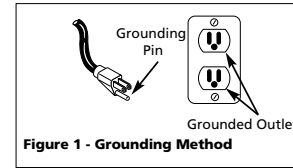

Figure 1 - Grounding Method
- This product is for use on a nominal 120 volt circuit and has a grounding plug that looks like the plug illustrated in Figure 1. Make sure the product is connected to an outlet having the same configuration as the plug. This product must be grounded. In the event of an electrical short circuit, grounding reduces risk of electrical shock by providing an escape wire for electric current. This product is equipped with a cord having a grounding wire with an appropriate grounding plug. Plug must be plugged into an outlet that is properly installed and grounded in accordance with all local codes and ordinances.